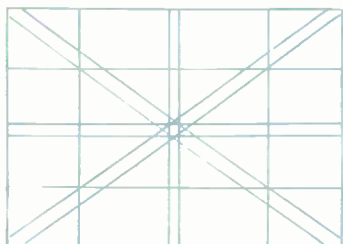

FIG 1
Now firmly glue the leg blocks into the corners between pieces (A) and (B) as seen in Fig. 1. Screws may be inserted into the blocks from the inside through pieces (B) to give further strengthening.
Select a fairly dense, old negative which is of no further use, and pin it on to a piece of card, emulsion side upwards. With a needle carefully scratch lines in directions similar to those shown in Fig. 1. You will note that these lines branch out in all directions, reaching the